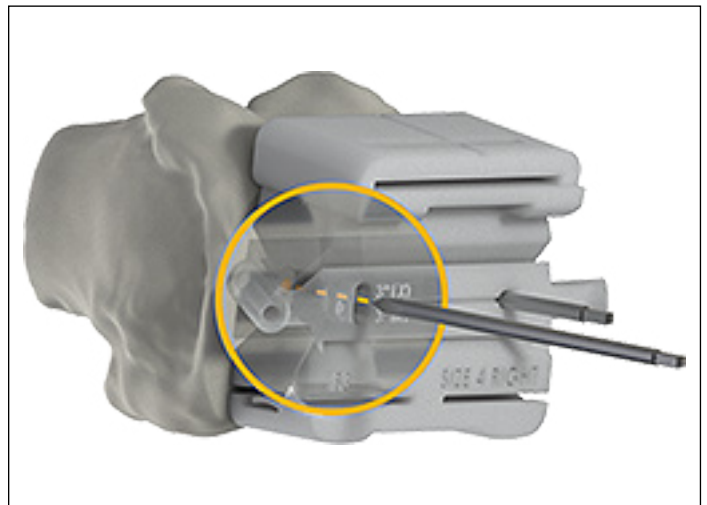

Figure 20. F3 guide with pin placement in previously prepared pin-holes
- With the F3B bushing removed, locate the lateral pin-hole through the lateral slot and place the pin in the previously prepared distal femur lateral pin-hole (**Figure 20**).